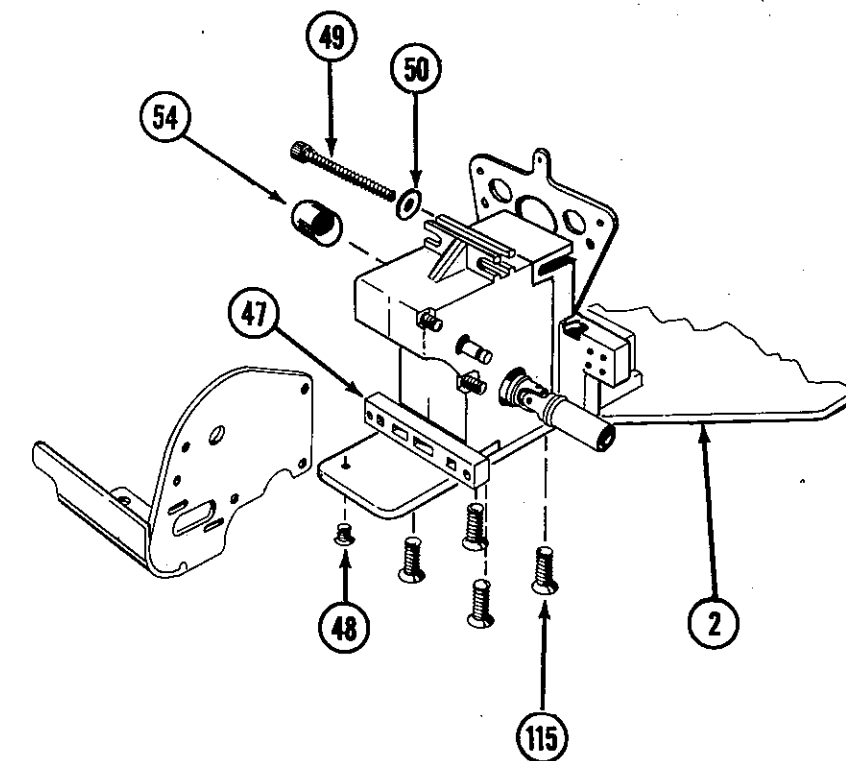

FIG. 20
34. While holding rear pivot support (47) in place under rear of gearbox, slide gearbox into place in rear bulkhead (6). Fig. 20.
35. Attach gearbox and rear pivot support (47) to chassis (2) using four 8-32 x 1/2" steel flathead screws (115). Fig. 20.
36. Secure motorplate (40) to chassis (2) using a 4-40 x 1/4" flathead screw (48). Fig. 20.
37. Affix gearbox to rear bulkhead (6) using a 4-40 x 1 3/4" socket head screw (49) with a #4 washer (50) under the head. Fig. 20.
38. Push dust cover (54) over differential adjustment hole in gearbox. Fig. 20.